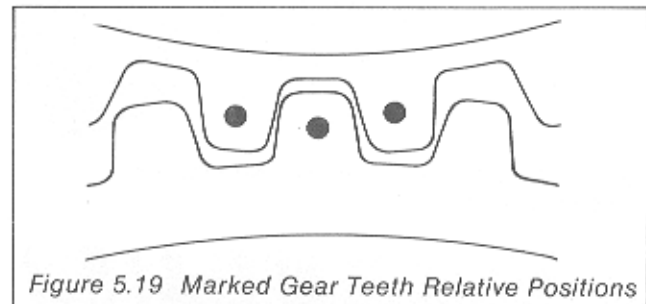
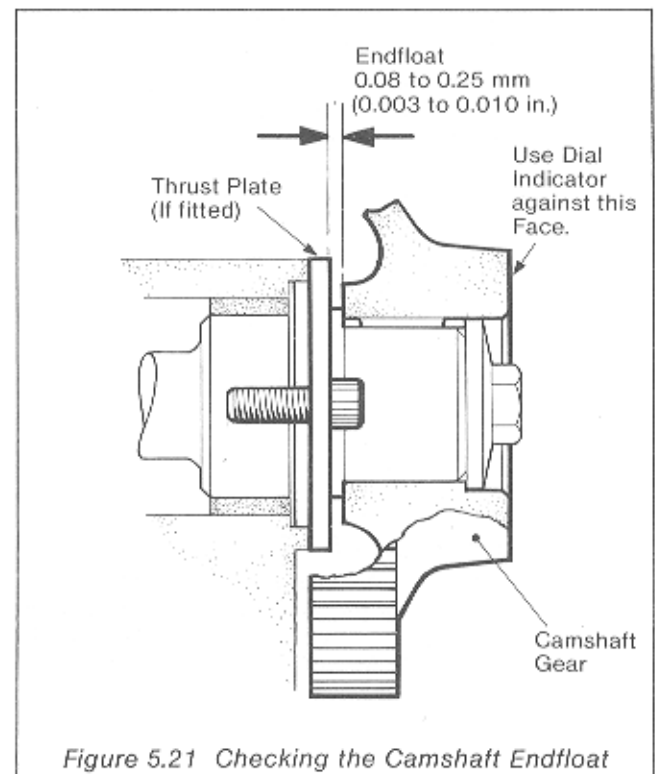

Figure 5.19 Marked Gear Teeth Relative Positions
Figure 5.21 Checking the Camshaft Endfloat
**5.33** The crankshaft gear is an interference fit on the crankshaft and to ease fitting it is recommended that the gear should be heated, preferably using an oil bath, before attempting to fit it to the crankshaft. If an alternative source of heat is used, ensure that the gearwheel is not overheated as this may effect the hardness. Before driving the gearwheel on to the shaft, ensure that the keyway is in line with the crankshaft key and the shaft is lightly oiled. If the camshaft is fitted ensure that the teeth marked with dots are in their relative positions (Figure 5.19). Fit the gearwheel retaining plate and securing screw. Tighten the screw to a torque 36.6 Nm (27 lbf ft).
- (1) To fit the camshaft gearwheel it is recommended that the gear should be heated, preferably using an oil bath, before attempting to fit it to the camshaft. If an alternative source of heat is used ensure that the gearwheel is not overheated as this may effect the hardness. Before pressing the gearwheel on to the shaft, ensure the thrust plate (where applicable) is fitted, the keyway is in line with the camshaft key and the shaft is lightly oiled. Fit the retaining washer and screw, fit starter dog or pinion, if applicable. Tighten the gearwheel securing screw to a torque loading of 36.6 Nm (27 lbf ft). Fit the extension shaft, if applicable.
- (2) Check that the camshaft bearing surfaces are clean and lightly lubricated.
- (3) Fit the camshaft followers in their noted positions.
- (4) Insert the camshaft in position, if the crankshaft gear is fitted make sure that the marked teeth on the gearwheels are in their relative positions as shown in Figure 5.19.
- (5) Align the thrust plate in position and tighten the retaining screws. (If applicable).
- (6) With the exception of AC1Z and AC1ZS engines prior to engine serial numbers 20000 and 10000, respectively, check the camshaft end float using a dial indicator as shown in Figure 5.21. The end float should be between 0.08 to 0.25mm (0.003 to 0.010 in.).
- (7) Secure the gear cover to the crankcase.
- (8) On AC1Z and AC1ZS engines prior to engine serial numbers 20000 and 10000, respectively, check the camshaft end float by using a dial indicator on the face of the start dog which protrudes through the cover. The end float should be between 0.08 to 0.25mm (0.003 to 0.010 in.).
- (9) Refit the sump using a new gasket and stand the engine on its base.
- (10) Fit the push rods in their noted positions and assemble the rocker support and rocker arms; check the valve clearances as detailed in Paragraph 5.14.
- (11) Fit the fuel feed pump, gasket and operating push rod, if fitted.
- (12) Fit the fuel injection pump and pipes; time the fuel injection pump (Section 3).
- (13) Fit the fuel tank (Section 3).
- (14) Fill the engine sump with the correct type and grade of lubricating oil.
- (15) Fit any starting arrangements or accessories.